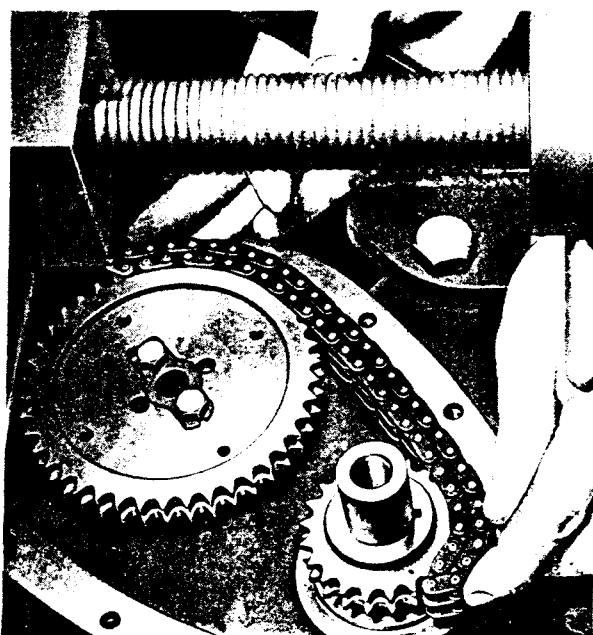

FIG. 27
9. Still without altering position of cam-shaft, mount sprocket with set screws finger tight and apply chain as shown in Fig. 27. The chain, located on crank-shaft sprocket, should engage at least 4 teeth on camshaft sprocket with no slackness. Reversal of sprocket provides four alternative positions on camshaft, giving a location variable by  $\frac{1}{4}$  tooth. The drillings in camshaft sprocket are located so that  $90^\circ$  movement will give  $\frac{1}{2}$  tooth adjustment, while reversal of sprocket will give a further  $\frac{1}{4}$  tooth adjustment in either direction.